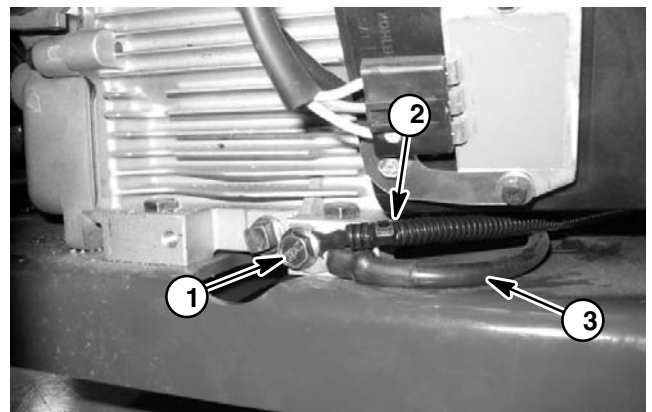

Figure 10
B. Disconnect negative battery cable and wire harness ground wire from the front corner of engine base (Fig. 10). Locate and retrieve starwasher from between engine and wire connectors.
B. Remove four (4) cap screws and flange nuts that secure the engine to the machine frame.
C. Secure engine to the frame with four (4) cap screws and flange nuts. The front two (2) cap screws should be positioned down through engine and frame. The rear two (2) cap screws should be up through frame and engine.
C. Position negative battery cable and wire harness ground wire to the front corner of engine base (Fig. 10). Place starwasher between engine and wire connectors and secure with flange head screw.